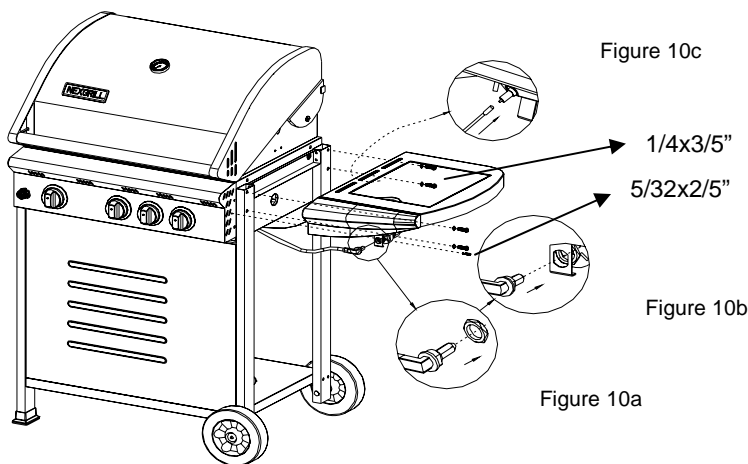

Figure 10
1. Attach side burner to grill cart by using (4) 1/4 x 3/5" Phillips head screws with (4) 1/4" lock washers. Then use (1) 5/32 x 2/5" Phillips head screw and (1) 5/32" lock washer to attach side burner control panel to main control panel. (Fig.10)